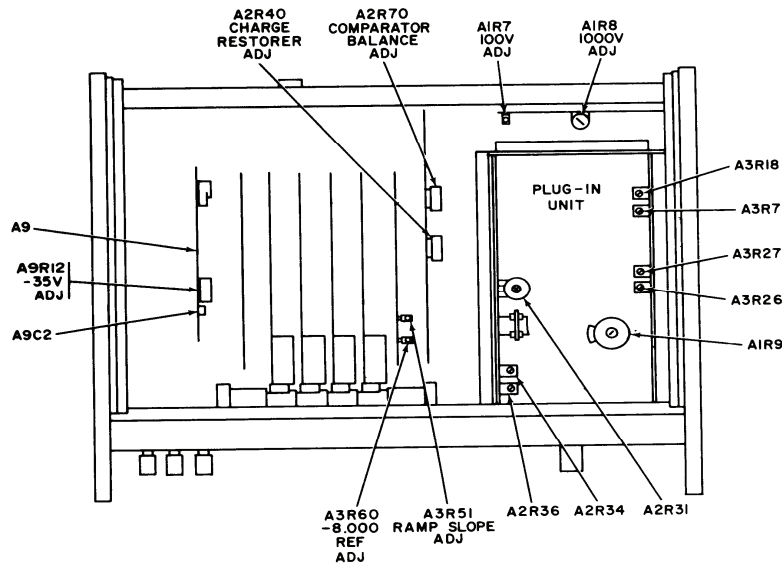

Figure 1. Digital voltmeter - top view.
- (1) Set rear panel **ZERO** adjustment to its mechanical midposition.
- (2) Adjust A2R70 COMPARATOR BALANCE ADJ (fig. 1) to obtain an indication of 0.000 on TI (R).
- (3) Adjust rear panel **ZERO** adjustment to obtain an indication of 0.000 on TI with + (plus) and - (minus) indication lights flashing alternately.
- (4) Adjust A2R40 CHARGE RESTORER ADJ (fig. 1) to obtain an indication of 0.000 on TI with + (plus) and - (minus) indicator lights flashing alternately (R).
- (5) Set **SAMPLE RATE** control for a TI indication of approximately one sample per second. If TI indication does not remain at 0.000 repeat a (2) and b (1) through (5) above.
- (6) Repeat 8 a (2) and 8 a (3) above.
- (7) Remove short from **INPUT** terminals, and connect calibrator (in standby mode) to TI **INPUT** terminals.
- (8) Set **INT CHECK 8000** adjustment to its mechanical midrange (approximately five turns from fully cw (clockwise) position).
- (9) Adjust calibrator for an output of 8.000 V.
- (10) Adjust A3R51 RAMP SLOPE ADJ (fig. 1) to obtain an indication of 8.000 on TI. Adjust **INT CHECK 8000** for fine adjustment if required (R).
- (11) Set **RANGE** switch to **100 V**.
- (12) Adjust calibrator for an output of 80.000 V.
- (13) Adjust A1R7 100V ADJ (fig. 1) to obtain an indication of 80.00 on TI (R).
- (14) Set **RANGE** switch to **1000 V**.
- (15) Adjust calibrator for an output of 800.00 V.
- (16) Adjust A1R8 1000V ADJ (fig. 1) to obtain an indication of 800.00 on TI (R).
- (17) Adjust calibrator for a negative output of - 8.000 V.
- (18) Set **RANGE** switch to **10 V**.
- (19) Adjust **INT CHECK 8000** adjustment to obtain an indication of -8.000 on TI (R).
- (20) Press and hold **INT CHECK 8000** pushbutton.
- (21) Adjust A3R60 -8.000 REF ADJ (fig. 1) to obtain an indication of -8.000 on TI (R). Release **INT CHECK 8000** pushbutton.
- (22) Adjust calibrator output to standby and remove. Short TI **INPUT** terminals.
- (23) Set **RANGE** switch to **100 MV** and adjust front panel **ZERO** adjust to obtain an indication of 00.00 on TI (R).
- (24) Set **RANGE** switch to **1000 MV** and adjust A2R31 (fig. 1) to obtain an indication of 0000 (R).
- (25) Remove short installed in (22) above and connect calibrator.
- (26) Adjust calibrator for an output of 800.0 mV.
- (27) Adjust A2R36 (fig. 1) to obtain an indication of 800.0 (R).
- (28) Set calibrator for negative output and repeat (26) above.
- (29) If required, readjust A2R36 and repeat (25) through (28) above until TI indicates between 799.9 and 800.1 for both positive and negative outputs of calibrator.
- (30) Connect calibrator for positive output.